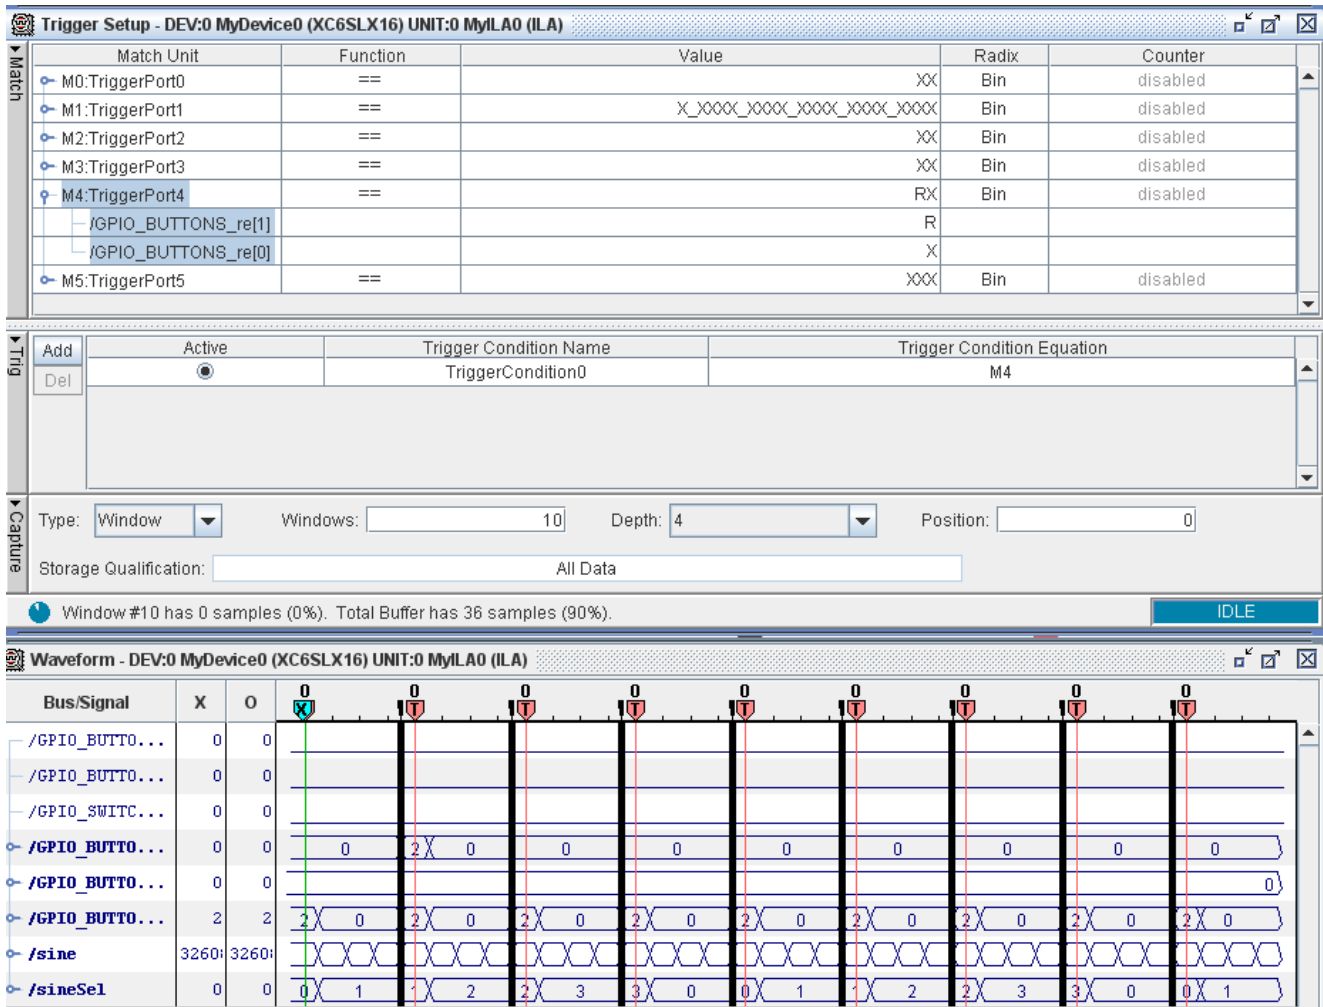

Figure 8: Sample View of Display Setting and State Machine Glitch
3. In the **Trigger Conditions** area of the **Trigger Setup** window, click inside the **Trigger Condition Equation** field. In the resulting dialog box, ensure that the appropriate match unit is enabled. You can tell that the correct match unit is enabled if it is highlighted in blue, as shown in Figure 8.
4. In the Capture area of the Trigger Setup window, shown in Figure 8, change the settings as follows:
3. Push the *Sine Wave Sequencer* button on the SP601 board. Observe the number of windows being captured in the status bar that appears just below the capture settings. (The status bar is shown in Figure 8.) If more than one window is captured with a single push of the button, you have determined that there is a problem on the `GPIO_BUTTON[1]` input. If only one window is captured, try again. You might have to push the button several times to reproduce this intermittent glitch.